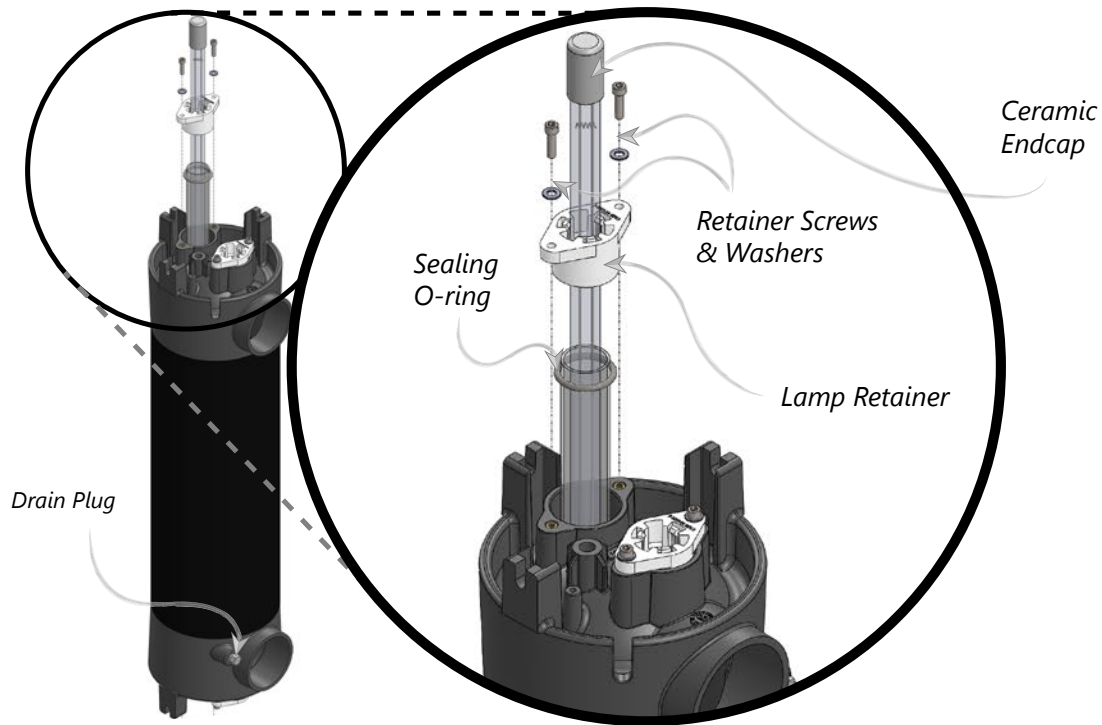

Figure 15: UV Reactor Subassembly
3. Place the lamp retainer over the quartz tube. Use the hex key included in the parts bag to attach the lamp retainer to the UV reactor, using the lamp retainer screws and washers as shown in Figure 15. Make sure the lamp retainer flanges are fully seated against the UV reactor.